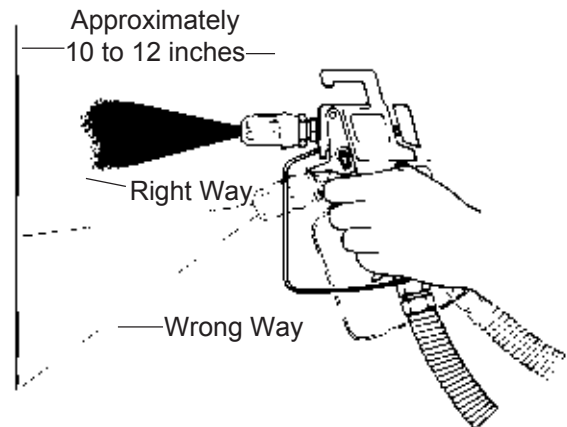

Figure 9. - Right and wrong ways to hold spray gun toward work.
6. Keep the spray gun perpendicular to the work as shown in Figure 9.